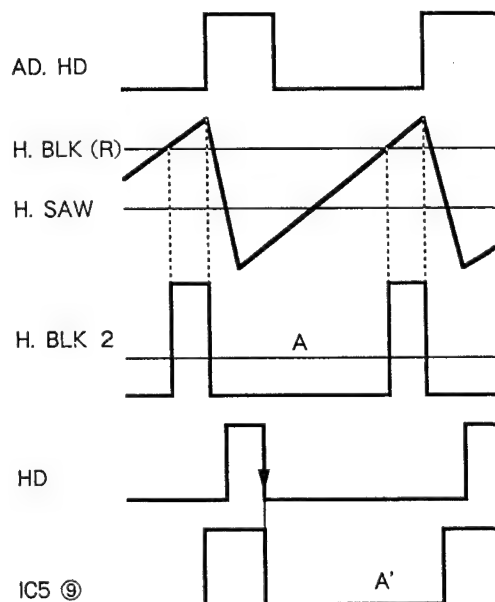

Fig. 7
- A pulse is created by shifting the voltage level of connector 25 - c and shifting H. SAW (Fig. 7 H. BLK 2). Voltage A will be defined to be the voltage resulting from integration. BLK (R) is created as follows. First add HD to pin ⑩ of IC5 and create a pulse using the leading edge as a trigger. Then take the integrated value of output \bar{Q} (pin ⑨), compare it against A in the foregoing, and apply a feedback until the same integration value is obtain. BLK (L) is created in the same manner.